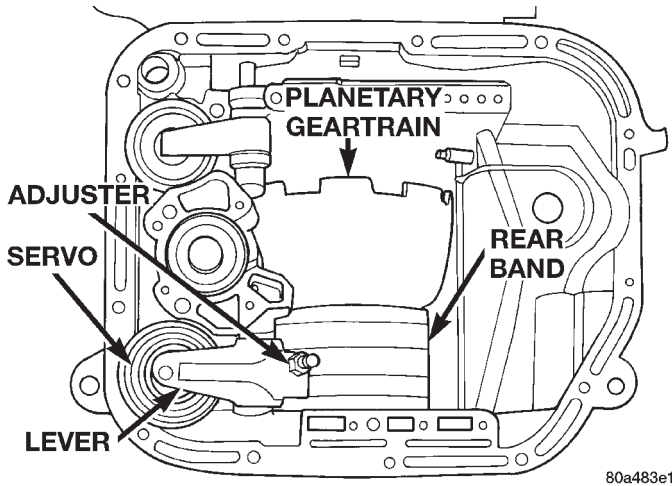

Fig. 84 Rear Band Adjuster Location
(26) Loosen rear band adjusting screw 4-5 turns (Fig. 84).